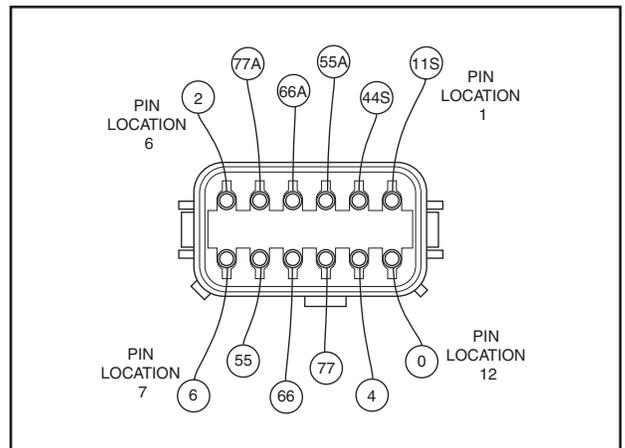

Figure 6-18. – C1 Connector, Female Side
7. Connect the meter test leads across Stator leads 11S (Pin 1) and Stator lead 44S (Pin 2) at the C1 connector female side. See Figure 6-18. Be careful not to damage the pin connectors with the test leads, use paper clips - do not force probes into connectors. Normal power winding resistance should be read.
8. Connect the meter test leads across Stator leads 66A (Pin 4) and Stator lead 77A (Pin 5) at the C1 connector female side. See Figure 6-18. Be careful not to damage the pin connectors with the test leads, use paper clips - do not force probes into connectors. Normal battery charge winding resistance should be read.
9. Connect the meter test leads across Stator leads 2 (Pin 6) and Stator lead 6 (Pin 7) at the C1 connector female side. See Figure 6-18. Be careful not to damage the pin connectors with the test leads, use paper clips - do not force probes into connectors. Normal excitation winding resistance should be read.
10. Connect the meter test leads across Stator leads 66 (Pin 9) and Stator lead 77 (Pin 10) at the C1 connector female side. See Figure 6-18. Be careful not to damage the pin connectors with the test leads, use paper clips - do not force probes into connectors. Normal 10 Amp battery charge winding resistance should be read.
10. Connect the meter test leads across Stator lead 66A (Pin 4) and Stator lead 2 (Pin 6) at the C1 connector female side and frame ground. Be careful not to damage the pin connectors with the test leads, use paper clips - do not force probes into connectors. See Figure 6-18. INFINITY should be read.
12. Connect the meter test leads across Stator lead 2 (Pin 6) at the C1 connector female side and frame ground. Be careful not to damage the pin connectors with the test leads, use paper clips - do not force probes into connectors. See Figure 6-18. INFINITY should be read.
13. Connect the meter test leads across Stator lead 66 (Pin 9) at the C1 connector female side and frame ground. Be careful not to damage the pin connectors with the test leads, use paper clips - do not force probes into connectors. See Figure 6-18. INFINITY should be read.
14. Connect the meter test leads across Stator leads Wire 11 and Stator lead 66A (Pin 4) at the C1 connector female side. Be careful not to damage the pin connectors with the test leads, use paper clips - do not force probes into connectors. See Figure 6-18. INFINITY should be read.
15. Connect the meter test leads across Stator leads Wire 11 and Stator lead 2 (Pin 6) at the C1 connector female side. Be careful not to damage the pin connectors with the test leads, use paper clips - do not force probes into connectors. See Figure 6-18. INFINITY should be read.
16. Connect the meter test leads across Stator leads Wire 11 and Stator lead 66 (Pin 9) at the C1 connector female side. Be careful not to damage the pin connectors with the test leads, use paper clips - do not force probes into connectors. See Figure 6-18. INFINITY should be read.
17. Connect the meter test leads across Stator lead 66A (Pin 4) and Stator lead 2 (Pin 6) at the C1 connector female side. Be careful not to damage the pin connectors with the test leads, use paper clips - do not force probes into connectors. See Figure 6-18. INFINITY should be read.
18. Connect the meter test leads across Stator lead 66A (Pin 4) and Stator lead 66 (Pin 9) at the C1 connector female side. Be careful not to damage the pin connectors with the test leads, use paper clips - do not force probes into connectors. See Figure 6-18. INFINITY should be read.
19. Connect the meter test leads across Stator lead 2 (Pin 6) and Stator lead 66 (Pin 9) at the C1 connector female side. Be careful not to damage the pin connectors with the test leads, use paper clips - do not force probes into connectors. See Figure 6-18. INFINITY should be read.
3. See Figure 6-18. Connect the meter test leads across Wire 4 (Pin 11) and Wire 0 (Pin 12) at the C1 connector female side. Be careful not to damage the pin connectors with the test leads, use paper clips - do not force probes into connectors. Rotor resistance should be measured approximately 7-14 ohms. If resistance is measured proceed to Step 6. If no resistance is measured continue.